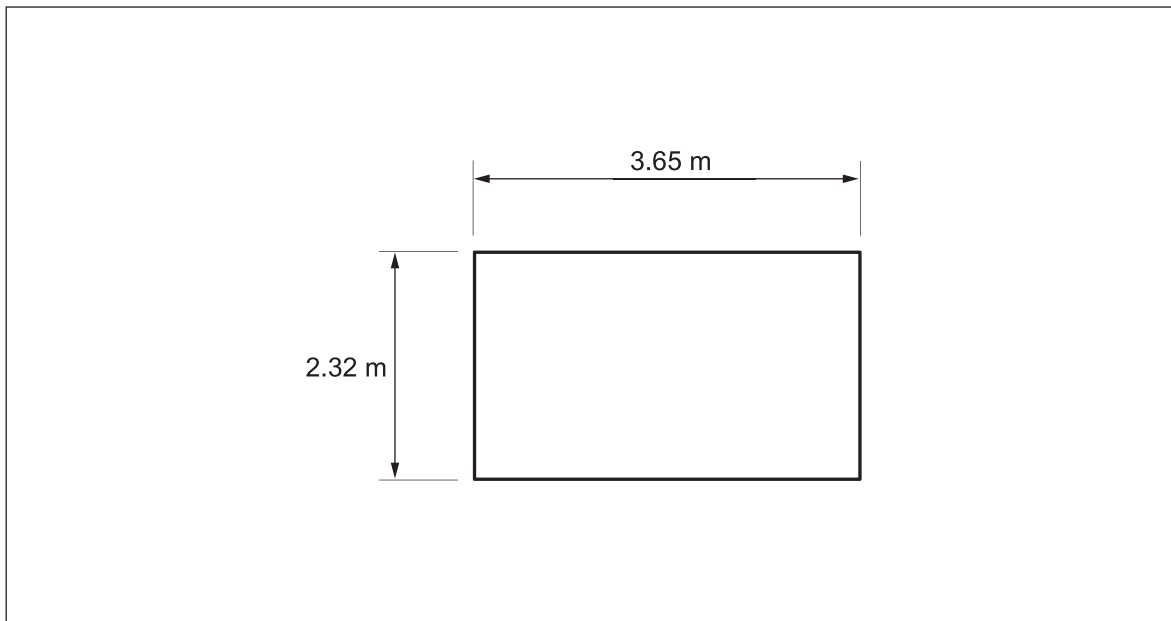

Figure 3
Figure 3 shows a piece of sheet metal. Sizes shown are in metres (m).
- a. Calculate the area of the sheet metal shown in Figure 3 in square metres (m^2) to two decimal places.
- b. Calculate the perimeter of the sheet metal shown in Figure 3 in millimetres (mm).